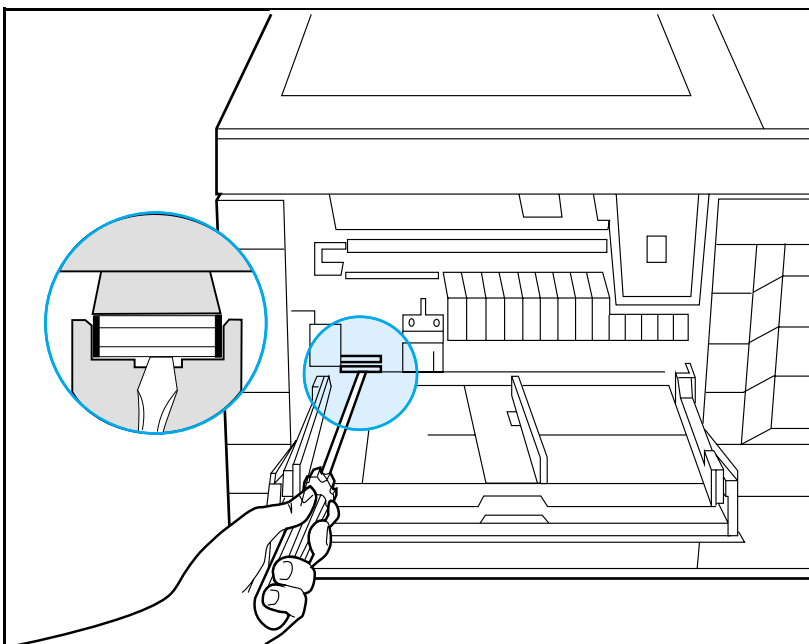

Figure 4-6 **Removing the MP Tray (Tray 1) Separation Pad**
- 4** Insert a small screwdriver into the indent at the front of the separation pad and gently lift the pad from its seat (see Figure 4-6).